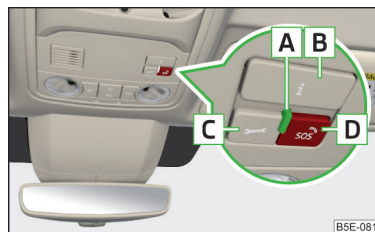

Fig. 144
Warning light and system keys » Fig. 144
► Press the button **B** or **C** » Fig. 144 (the connection can be **terminated** by pressing the button again).
The **function of the system** is indicated once the ignition is switched on by the warning light **A** lighting up » Fig. 144.